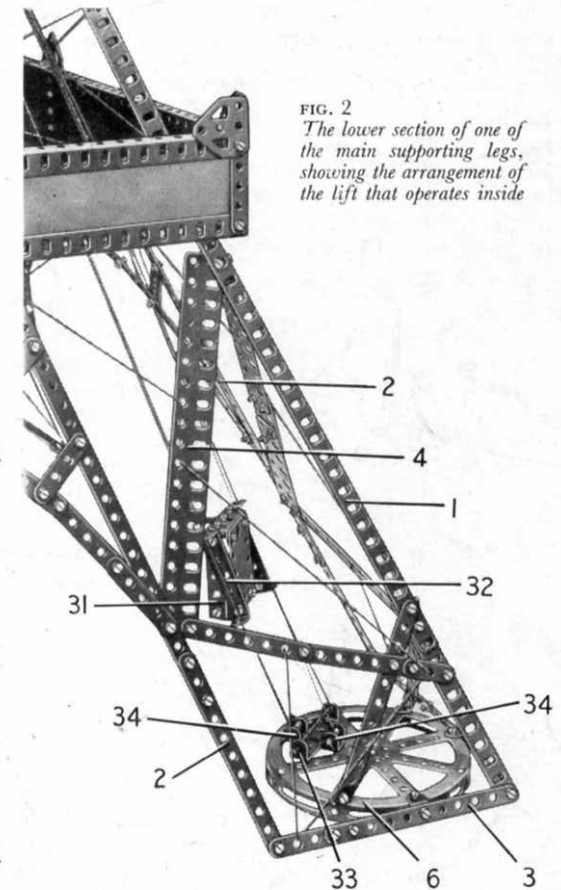
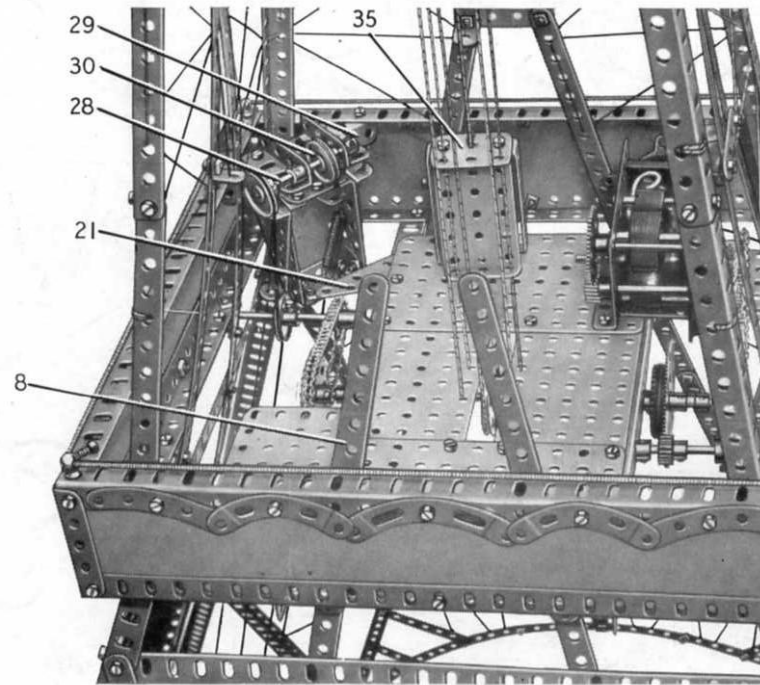

FIG. 2
FIG. 7 Another view of the centre landing platform
Details of the Lifts (Figs. 2, 5, 6 and 7)
The lift working to the centre platform is made by bolting 1½" Angle Girders to each end of a 2½" × 1½" Flexible Plate. A 2½" × ½" Double Angle Strip (31) (Fig. 2) on each side is fixed between the Angle Girders, and a further 2½" × ½" Double Angle Strip (32) is arranged on each side. The Double Angle Strips (31) and (32) are bolted together at the top and are connected by a Fishplate at their lower ends. The guides for this lift are provided by a length of Cord tied to one of the 2" Angle Girders bolted to girder (29) (Fig. 7). The Cord is passed through the lugs of one of the Double Angle Strips (32), through a 2½" × ½" Double Angle Strip (33) (Fig. 2) bolted to the Hub Disc (6), and through the lugs of the other Double Angle Strip (32). The Cord is pulled tight and is tied to the second 2" Angle Girder. The lift-operating Cord is tied to a Fishplate bolted to the top 1½" Angle Girder of the lift and to a Tension Spring placed between the two Angle Girders; it is then taken over Pulley (30) (Fig. 7) and round two 1" Rods held by Spring Clips in Double Brackets (34) (Fig. 2). The Cord is then passed through the lower 1½" Angle Girder of the lift and is tied to the bottom loop of the Tension Spring so that the Spring is stretched slightly.